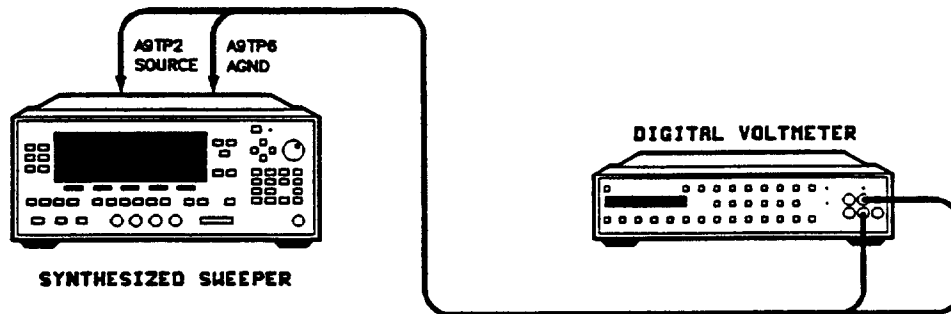

Figure 3-20. Low Power SRD Bias Adjustment Setup
1. Connect the equipment as shown in Figure 3-20. Preset all instruments and let them warm up for at least one hour.